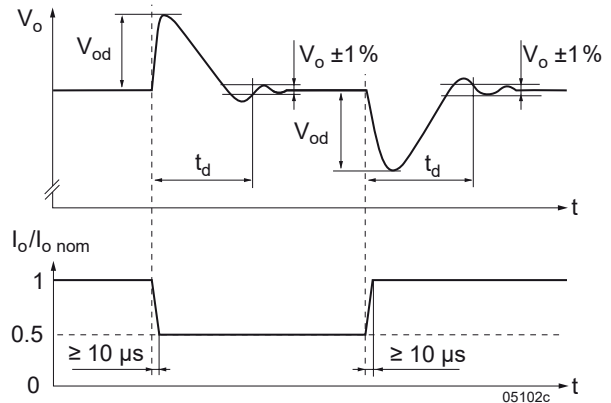

Fig. 13
- 2 See *Dynamic load regulation (fig. 13)*
4 See *Dynamic load regulation (fig. 13)*